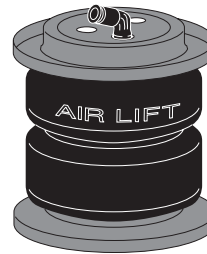

fig. 4
1. Place a roll plate (D) on the top and bottom of the air spring (A) so that the air spring is seated within the roll plates (Figure 4).
2. Install the air fitting (E) finger tight plus 1 1/2 turns (Figure 4). Use an open end wrench, being careful to tighten on the metal hex nut only. *Do not overtighten.* This fitting is precoated with sealant.